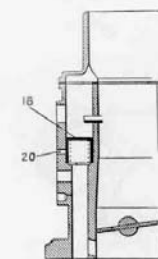
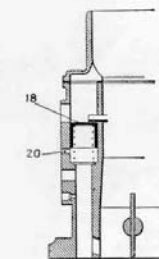

Fig 3
Fig 4
When the engine is running and the spring is warmed by the passage of hot air, the disc valve begins to turn, first taking the position of figure 4 where only part on the disc valve (shaded) is opposite the disc valve ports on the face, thus causing a progressive weakening of the mixture, this action continues until the disc valve ports do not communicate with the parts on the face (figure 5). At this point the choke is completely out of action and the engine is idling. At least, when the disc valve is in the position of figure 5, a light spring becomes fixed in a slot of the spindle (2) to keep the disc valve (1) out of action. In order that this spring releases itself from the slot so that the disc valve can take up its working position again, it is necessary to considerably lower the temperature at which the spring is operative. This device aims at avoiding a too rapid or premature return to action of the choke when the engine cools slightly during a brief halt.
When the engine is running the depression acting in the channel (13) withdraws the membrane and frees the communication between (12), (11) and (10), which has the primary effect of weakening the mixture to stop the engine "hunting" through excess fuel. Then as the spring is warmed by the hot air, the disc valve begins to turn, first taking the position of figure 4, where only one part of the disc valve (shaded) communicates with the ports on the face, thus causing a progressive weakening of the mixture and this continues until the disc valve ports do not communicate with any of the ports on the face (figure 5). At this moment, the starter is completely out of action and the engine is idling.
As the spring is warmed by the passage of hot air, the disc valve begins to turn, first taking the position of figure 3 where only one of the ports of the disc valve (shaded) communicates with the orifices on the face, thus causing a weakening of the mixture. After acceleration, the butterfly is open or partly open, the depression in the inlet manifold becomes weak, the piston (18) rises again (figure 4) and the passage of fuel through the large channel (20) is unrestricted. This increase in diameter with a subsequent increase in volume of the mixture to ensure drive away.
As long as the choke is not cut off, the action of the spring continues until the disc valve ports do not communicate any more with the ports on the face (figure 4) and, at this moment the starter is completely out of action.